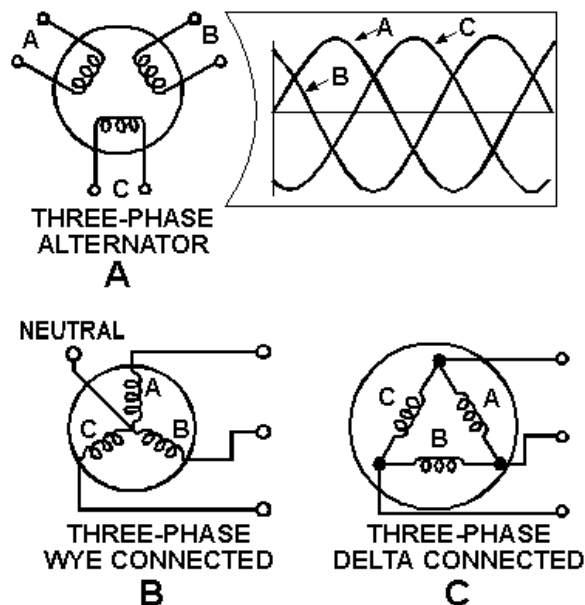

Figure 3-8.—Three-phase alternator connections.
The three-phase alternator, as the name implies, has three single-phase windings spaced such that the voltage induced in any one phase is displaced by  $120^\circ$  from the other two. A schematic diagram of a three-phase stator showing all the coils becomes complex, and it is difficult to see what is actually happening. The simplified schematic of figure 3-8, view A, shows all the windings of each phase lumped together as one winding. The rotor is omitted for simplicity. The voltage waveforms generated across each phase are drawn on a graph, phase-displaced  $120^\circ$  from each other. The three-phase alternator as shown in this schematic is made up of three single-phase alternators whose generated voltages are out of phase by  $120^\circ$ . The three phases are independent of each other.
Rather than having six leads coming out of the three-phase alternator, the same leads from each phase may be connected together to form a wye (Y) connection, as shown in figure 3-8, view B. It is called a wye connection because, without the neutral, the windings appear as the letter Y, in this case sideways or upside down.
A three-phase stator can also be connected so that the phases are connected end-to-end; it is now delta connected (fig. 3-8, view C). (Delta because it looks like the Greek letter delta,  $\Delta$ .) In the delta connection, line voltages are equal to phase voltages, but each line current is equal to 1.73 times the phase current. Both the wye and the delta connections are used in alternators.